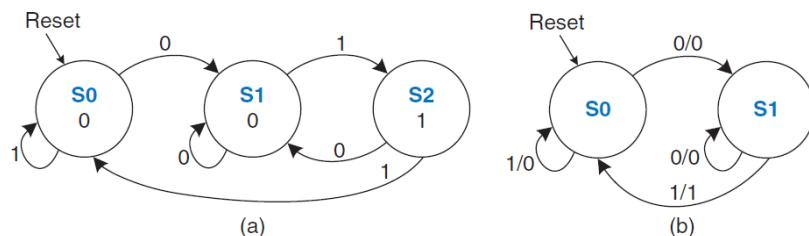

Figure 3.35 FSM state transition diagrams: (a) Moore machine, (b) Mealy machine
**Solution:** The Moore machine requires three states, as shown in Figure 3.35(a). Convince yourself that the state transition diagram is correct. In particular, why is there an arc from S2 to S1 when the input is 0?
In comparison, the Mealy machine requires only two states, as shown in Figure 3.35(b). Each arc is labeled as  $A/Y$ .  $A$  is the value of the input that causes that transition, and  $Y$  is the corresponding output.